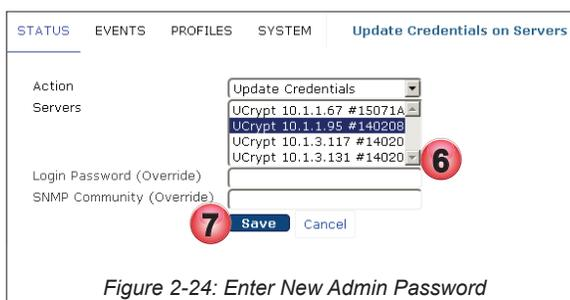

Figure 2-24: Enter New Admin Password
6. The appropriate Device will be highlighted. Enter the new **Master account** password and, only if the SNMP community changed, enter it as well, Figure 2-24.